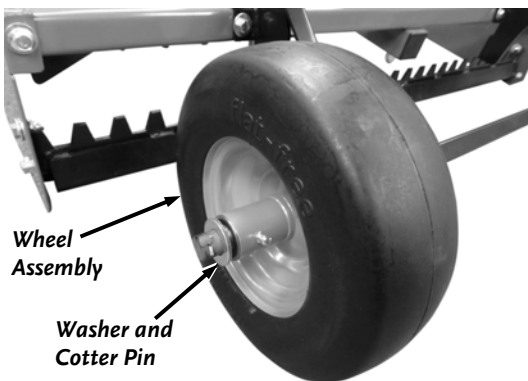

Figure 17
25. Install a .81" ID X 1.5"OD X .11" L Washer onto one end of the Axle, followed by a Wheel Assembly (Grease Fitting facing out) (**Figure 17**).